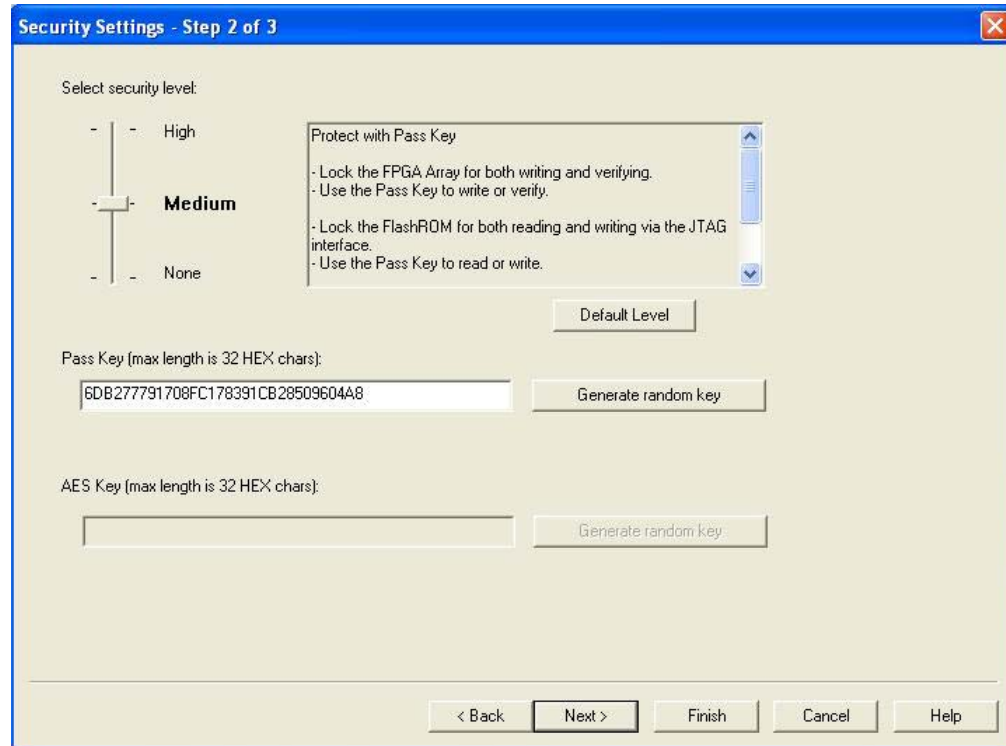

Figure 11-12 • Medium Security Level Selected for Low Power Flash Devices
- Choose the appropriate security level setting and enter a FlashLock Pass Key. The default is the **Medium** security level (Figure 11-12). Click **Next**.